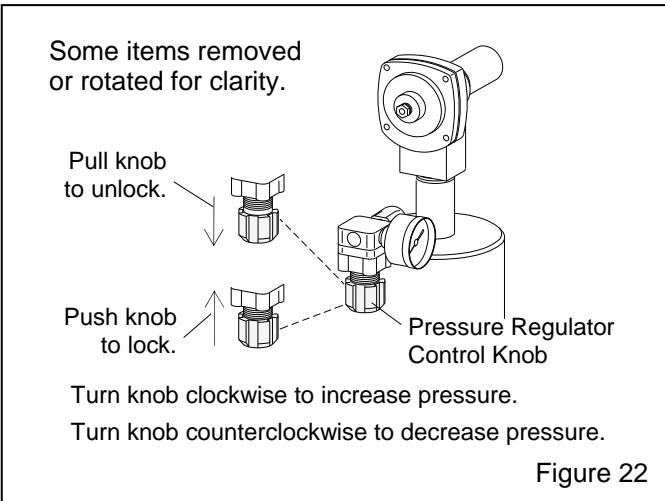

Figure 22
5.1.1 The pressure regulator is located on the pulse reservoir inlet, as shown in Figure 22. After the cartridge is seasoned per Section 7.2, adjust pressure to 60 psi.